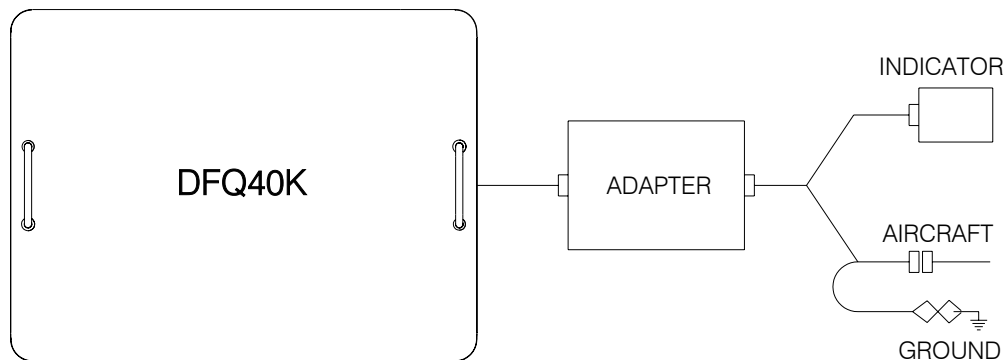

Figure 10 AIRCRAFT INDICATOR TEST CONFIGURATION
- (1) Position the equipment conveniently for the following procedures.
- (2) Connect to the Test Set the Adapter Cable specific for the Aircraft being tested, as shown in Figure 10 or as directed in the Adapter Cable Instructions.
- (3) Connect the Adapter Cable between the Indicator and the aircraft wiring plug.
- (4) Connect the ground lead from the adapter (if so equipped) or from the Test Set **GND** receptacle, to a good airframe ground.